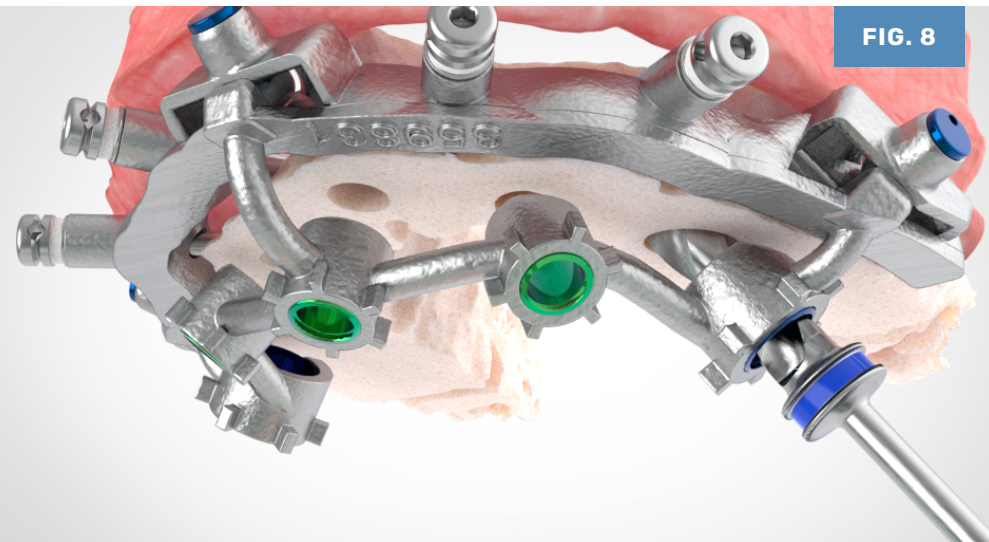

FIG. 8
2. Perform osteotomy drilling according to protocols determined by your implant system of choice. **(FIG. 8)**